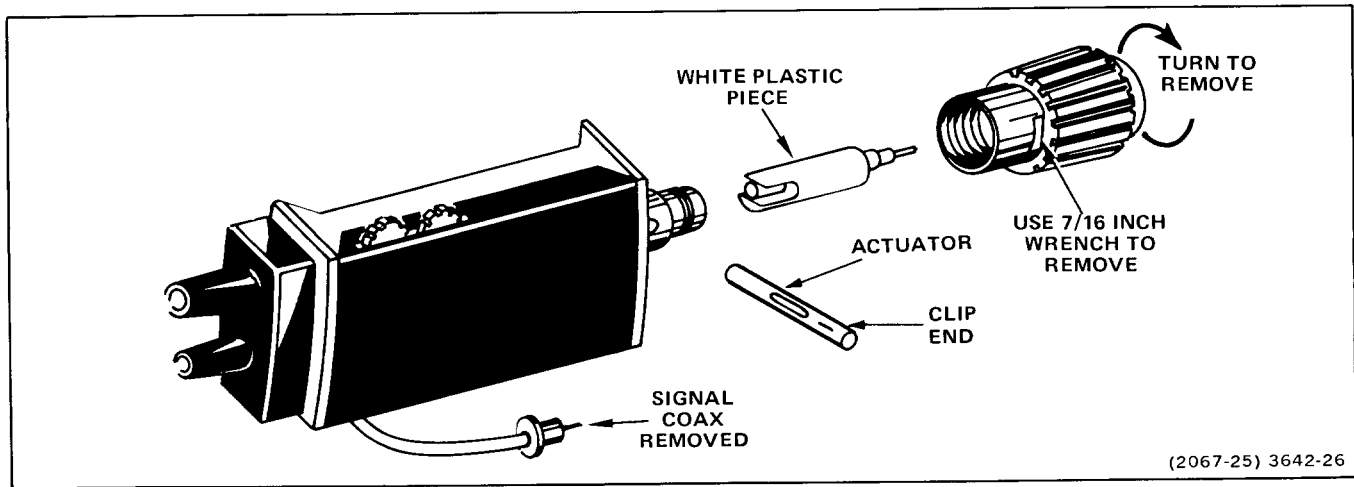

Figure 5-7. INT-EXT switch removal.
3. Using a 7/16-inch open-end wrench, loosen the bnc connector shell and carefully remove it (see Figure 5-7).
4. Grasp the white plastic piece just exposed and pull to remove (see Figure 5-7).
5. Grasp the INT-EXT switch actuator and pull to remove (see Figure 5-7). Note orientation of the clip end.
When reinstalling the switch actuator, be sure the clip end is correctly oriented (see Figure 5-7).